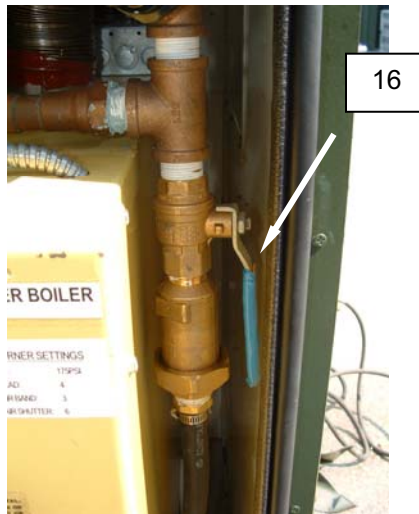

Figure 10. Boiler Water Inlet Drain Valve.
7. Open the boiler water inlet drain valve V-38 (Figure 10, Item 16).